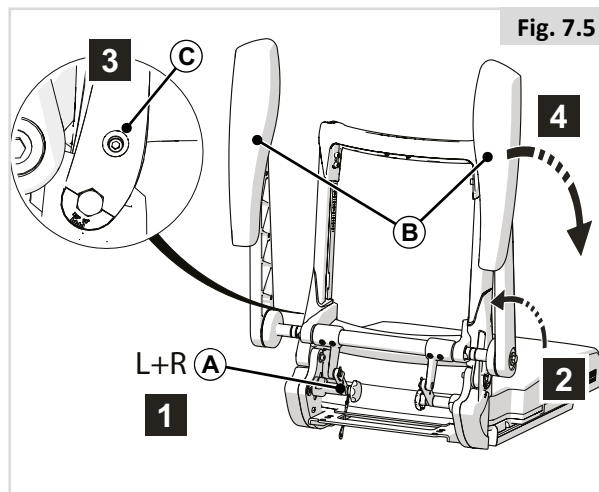

Fig. 7.5
7.4 Folding down backrest with reclining armrests (Fig 7.5)